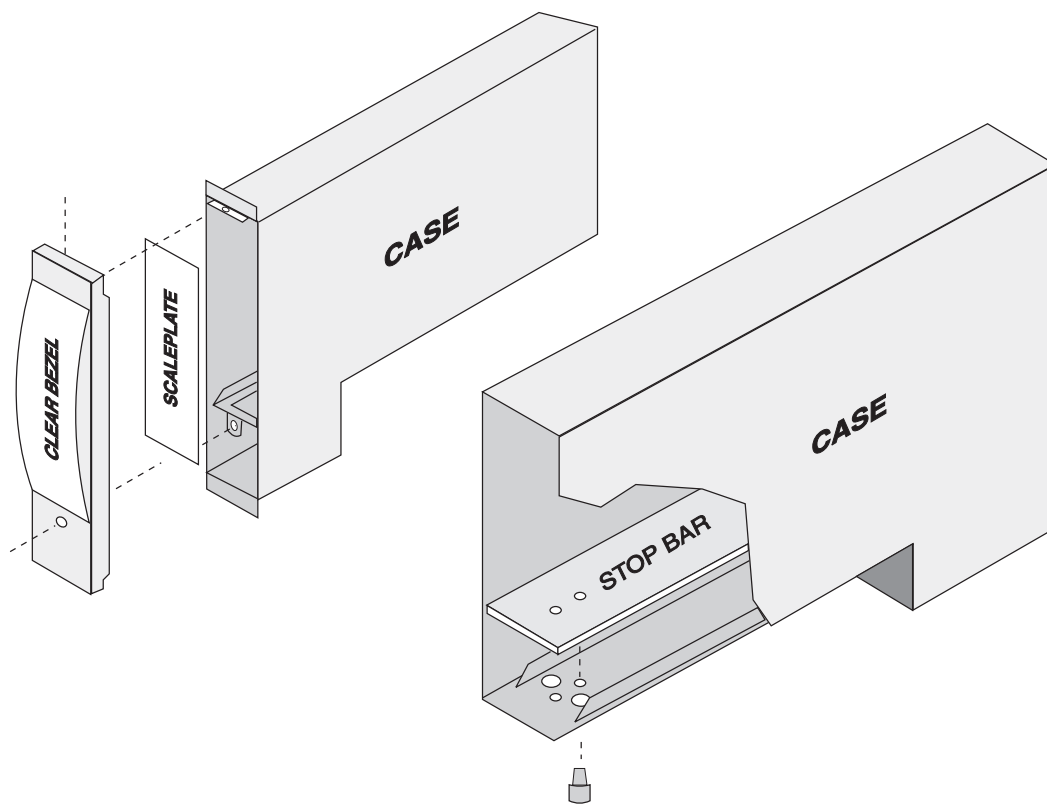

Figure 1 *Bargraph installation*
3. Install the new scaleplate into the clear bezel (see Figure 1).
- a. Install the stop bar in the rear of the case (see Figure 1). Use a 5/32-inch hex wrench and tighten the socket head screw into the stop bar. Notice that the screw goes through the second hole in both the case and the stop bar.
- d. Install the stop bar in the rear of the case (see Figure 1). Use a 5/32-inch hex wrench and tighten the socket head screw into the stop bar. Notice that the screw goes through the second hole in both the case and the stop bar.